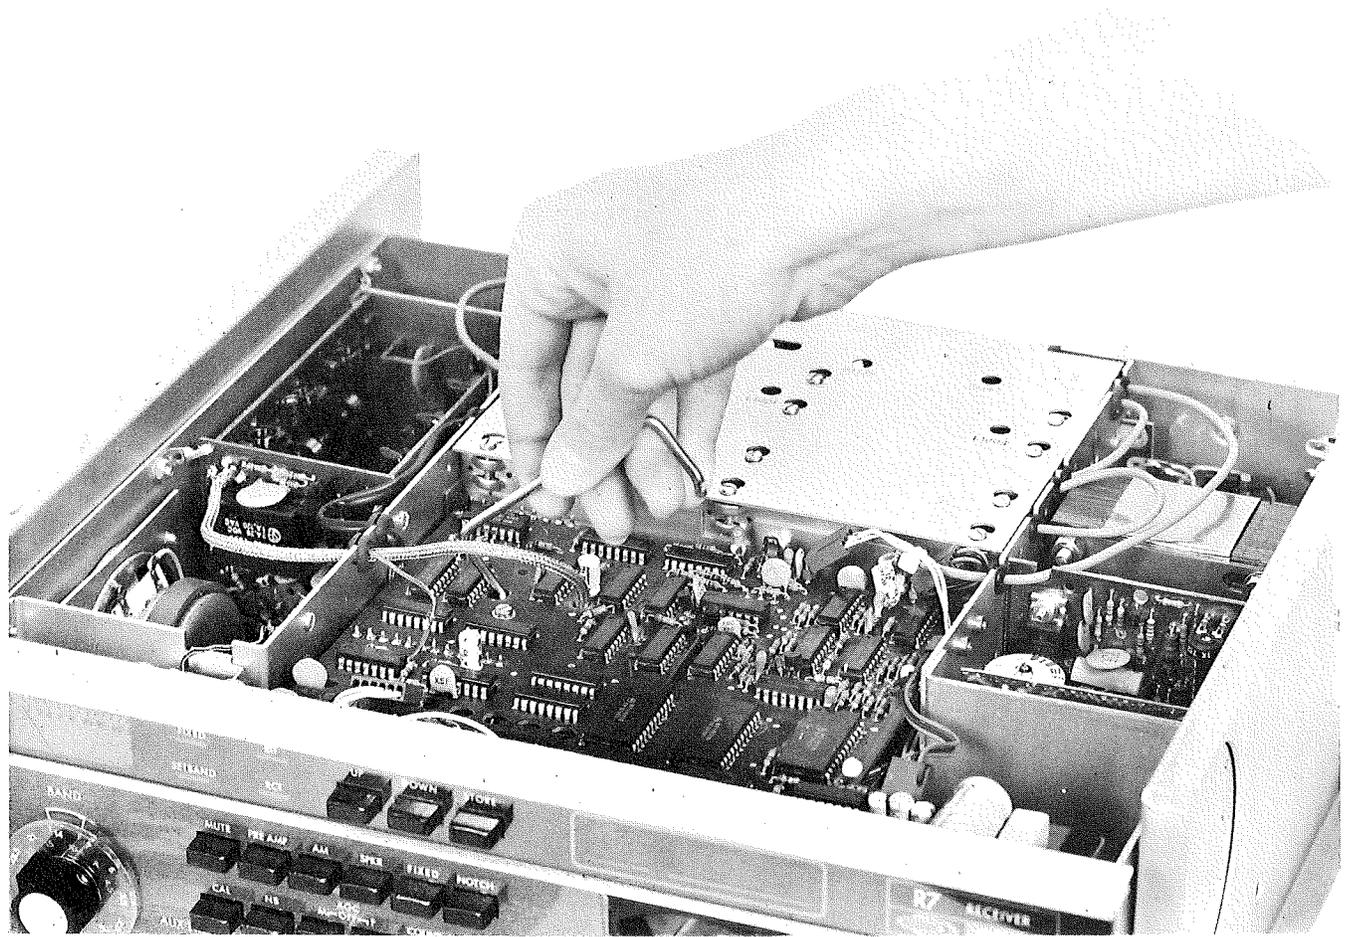

Fig. 3-41 DR7 Board Removal
DR7 REMOVAL (Refer to Pictorial Fig. 3-41)
1. Unplug (5) five connectors (P1 through P5) from the DR7 board. Position cables carefully so that they will be free of the DR7 Board when it is lifted out. Remove the retaining screw and lockwasher (adjacent to U9006).
3. Using the card puller supplied with the radio, hook one end under the front edge of the large hole adjacent to U9008 (shown in figure 3-41). Grasp the tool and pull upwards firmly, but slowly, to disengage one 12 pin, one 9 pin and two 3 pin connectors. Once the connectors have been disengaged, remove the card puller.
DR7 INSTALLATION (Refer to Pictorial Figure 3-41)